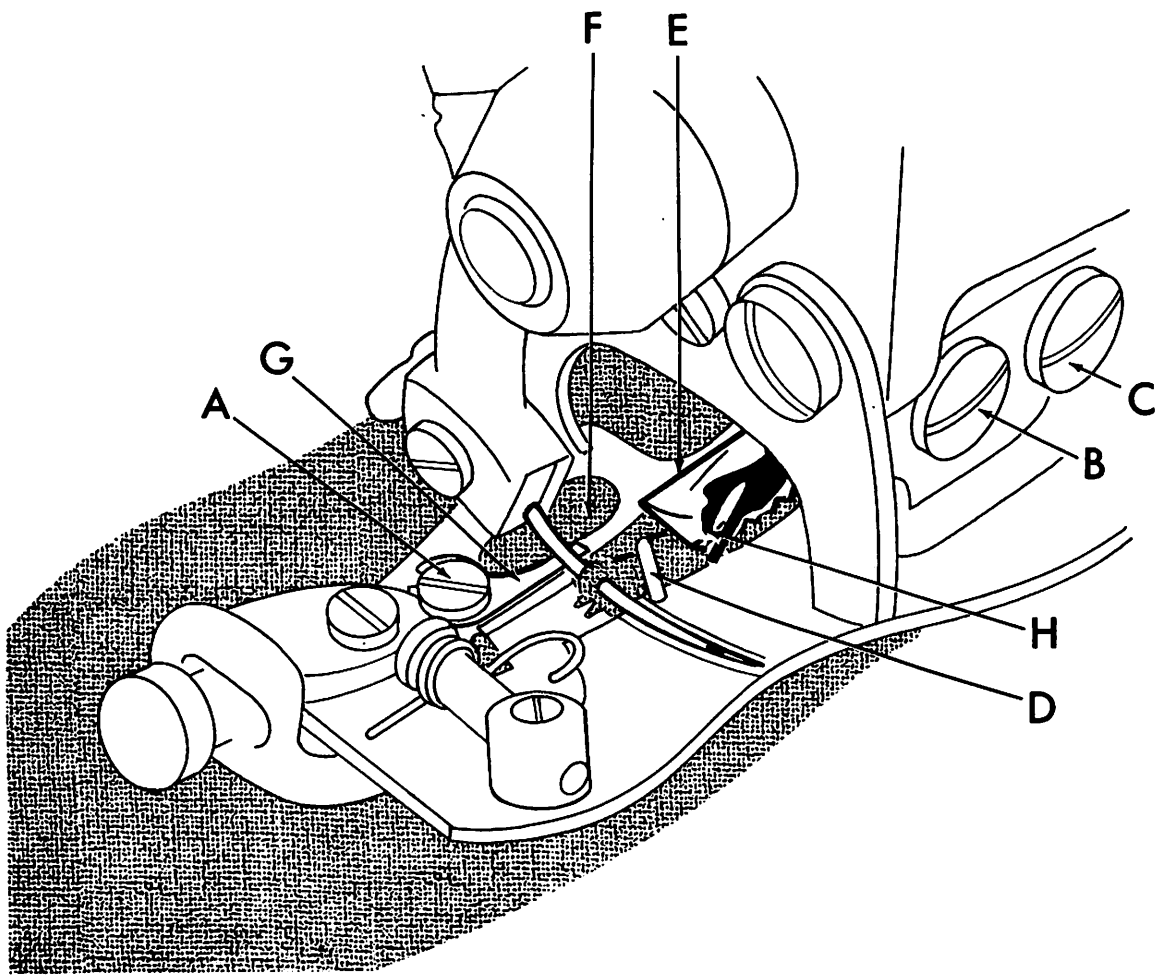
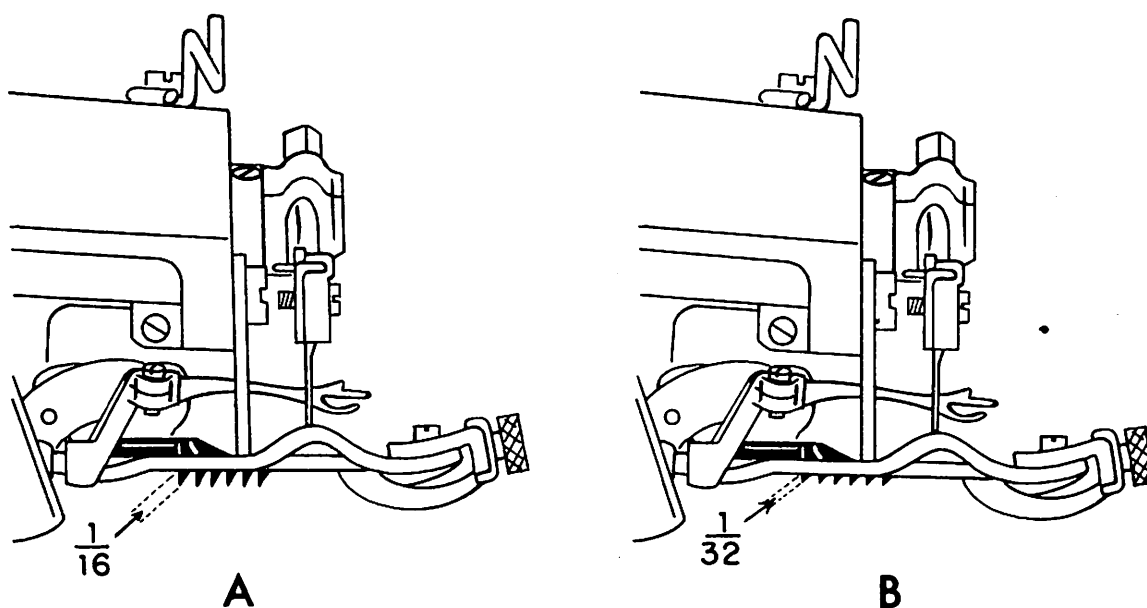

FIGURE 9
FIGURE 10
9. After all the necessary adjustments have been made, tighten all set screws and the lock nut and recheck all the adjustment points. Referring to Figure 9 the looper should now clear the chain-off pin ("D"), feeder ("E"), looper slot ("F"), needle, and pass over the needle in the correct position to pick up the loop.
1. After considerable service, it may be expected that the wearing action of the needle will cause a sharp edged groove to form on the needle guide (item "G" in Figure 9).
2. Loosen the needle guide attaching screw (item "A" in Figure 9) and remove the worn needle guide. Clean out any lint or dirt that may have accumulated under the old guide and insert the new guide. Insure that the new guide is seated flush with the top and side of the presserfoot and then retighten the attaching screw. Slowly turn the handwheel in the direction away from the operator and check to insure that the new guide fits properly under the needle and that no interference has been introduced between the guide and the looper.
1. In the event that the machine develops difficulty by failing to properly feed the work, a worn feeder is frequently found to be the cause. After considerable service, especially with certain hard fabrics, the feeder teeth have a tendency to become dull, and the feeder should be replaced. In order to remove the old feeder, remove the front feeder attaching screw (item "B" in Figure 9) and loosen the rear feeder attaching screw (item "C" in Figure 9). The old feeder may then be slid out of place. Insert the new feeder under the rear screw and replace the front screw.
2. Before tightening the attaching screws check to see that the feeder is set to the proper depth. Referring to Figure 10 this should be approximately $\frac{1}{32}$ " (.795mm) below and parallel to the bottom of the presserfoot for all light and medium weight fabrics. For heavy fabrics, the setting should be approximately $\frac{1}{16}$ " (1.59mm) below and parallel to the bottom of the presserfoot. These dimensions are intended as guides and may be modified as required by the specific fabrics. Once the proper depth is established, rotate the handwheel slowly in a direction away from the operator and check to insure that the feeder clears the looper (see Figure 9, Point "H") and also clears both sides of the feeder slot in the presserfoot. Firmly tighten feeder attaching screws (Figure 9, Items "B" & "C") before resuming sewing.